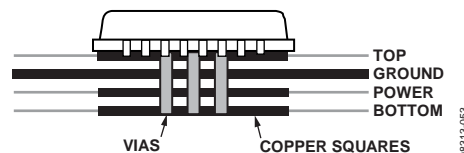

Figure 55. Exposed Pad Layout Example, Side View
- A copper layer equal in size to the exposed pad should be on all layers of the board, from top to bottom, and should connect somewhere to a dedicated copper board layer (see Figure 55).